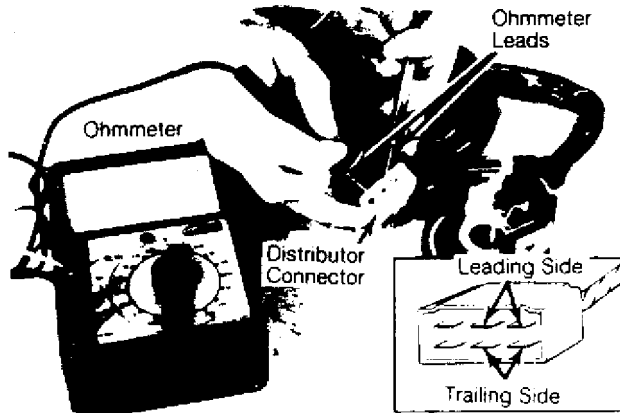

Fig. 4: Ohmmeter Hookup for Pick-Up Coil Resistance Check
1) Set an ohmmeter in the x100 scale. Turn ignition switch "OFF". Disconnect connector between ignitor and distributor. See Fig. 4.